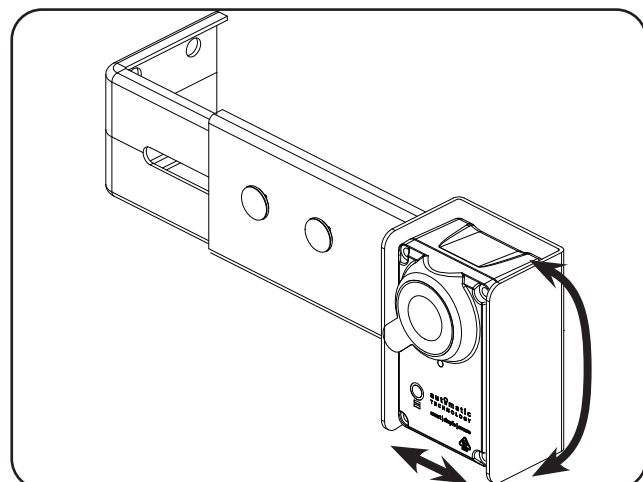

Fig 6.3.3
- Align the safety beams by moving them per Fig 6.3.3 and using the main light as a guide: